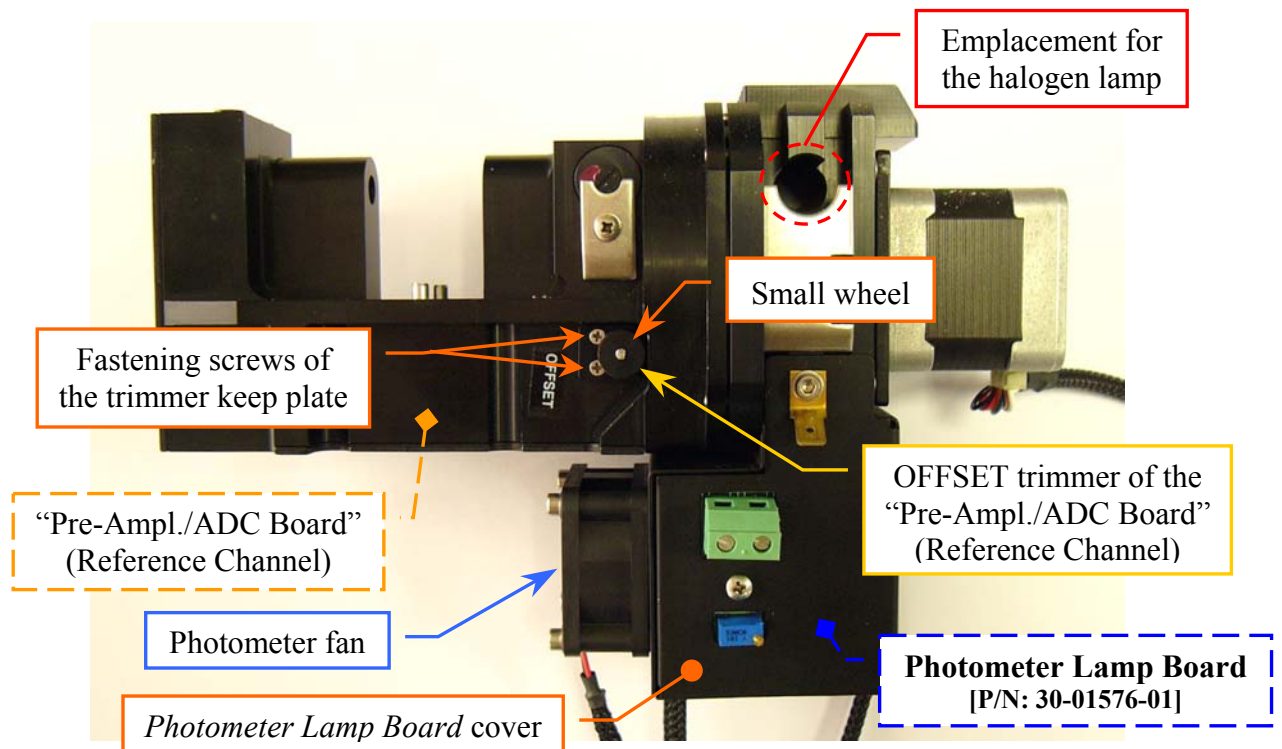

Fig. 61 – OFFSET trimmer of the “Pre-Ampl./ADC Board” (Reference Channel)
10. Click the "START Reference Channel Conversion" button (in the "Dark" position) and make sure that the adjacent text box shows a counts value equal to 100 ± 50 . If it not be so, turn the OFFSET trimmer of the "Pre-Ampl./ADC Board (Reference Channel)" in order to set the correct counts value (**Fig. 61**).
5. Take out the Photometer Halogen Lamp from its emplacement on the Photometer (**Fig. 61**).
3. Unscrew the two keep plate screws of the external small wheel of the OFFSET Trimmer of the Reference Channel board (**Fig. 61**), then remove the small wheel (together with its keep plate) from its hole.
9. Replace the external small wheel in the hole of the OFFSET Trimmer of the Reference Channel board, make sure that the small wheel has a grip on the board trimmer screw and screw the two small wheel keep plate screws (**Fig. 61**).